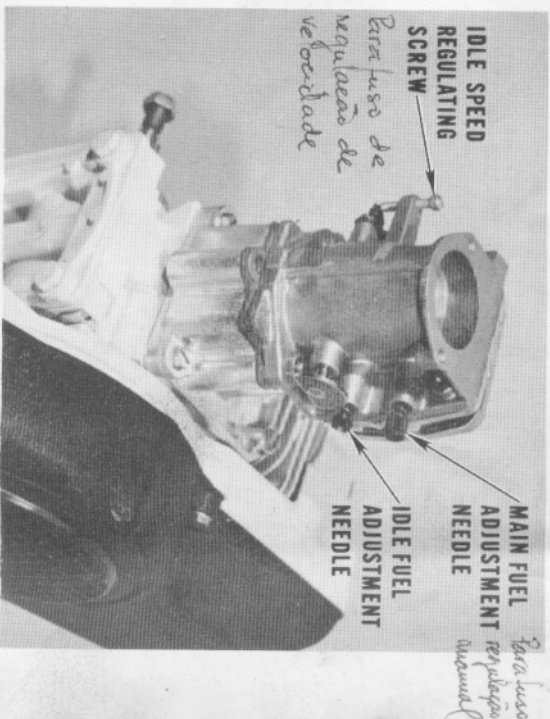

FIGURE 7
1. Close the main and idle fuel adjustment needles (turn clockwise) until they just seat (Figure 7).
2. Open the main fuel adjustment needle (turn counterclockwise) 1-1/2 to 2 turns. Open the idle fuel adjustment needle 1 to 1-1/4 turns (Figure 7).